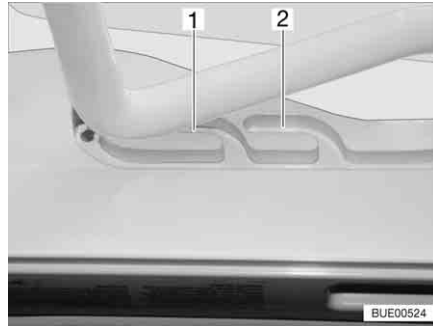
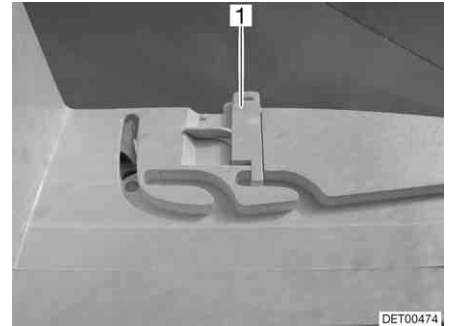

Fig. 90 Heki skylight in ventilation position
Fig. 91 Ventilation position locking mechanism
The Heki skylight can be put in two ventilation positions: Bad weather position (Fig. 90,1) and central position (Fig. 90,2). Depending on the model, the skylight can be locked in the central position with the latch (Fig. 91,1).
- Push the bar slightly upwards and into the selected guide (Fig. 90,1 or 2) and lock if necessary.